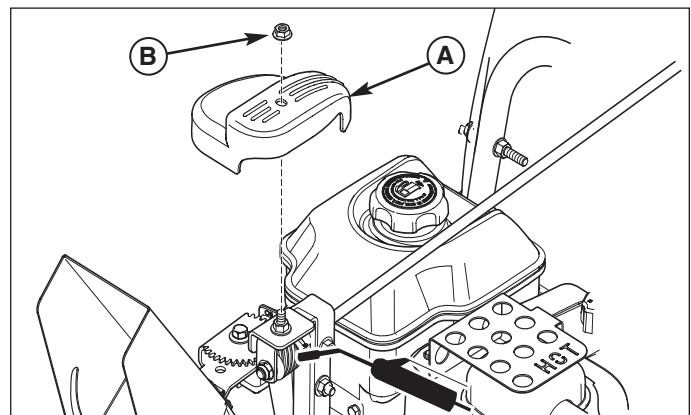

Figure 13. Rotator Cover Removal
8. Remove the 5/16 flange lock nut (B, Figure 13) securing the rotator cover (A).
18. Install rotator cover (A, Figure 13) and secure with 5/16-18 flange lock nut (B). Tighten nut to 11 lb-ft (15 Nm).